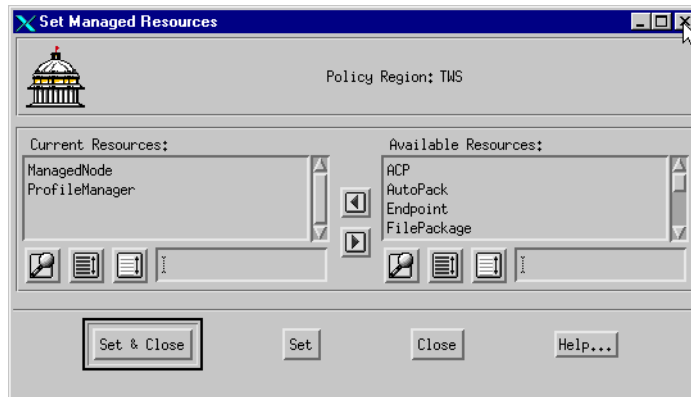

Figure 39. Set Managed Resources
6. Select, at least, **Managed Node** and **ProfileManager** as shown in Figure 39.
9. Double click on the **TWS** Policy Region, and then select **Create ManagedNode** as shown in Figure 39 on page 58.